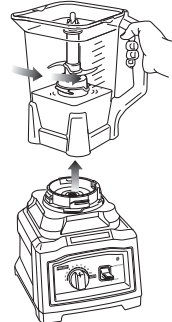

Fig. 8
- 12 Turn the pitcher counter clockwise to remove and then lift off the base. (Fig. 8)